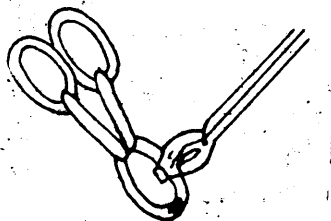

Figure 2.
3. Place two links in the link that is to be welded. (Fig. 2). Grasp the link on the side or as near the end of the link, opposite where the weld is to be made. You can handle the link very well this way. Hammer the scarfed ends close together for the weld.